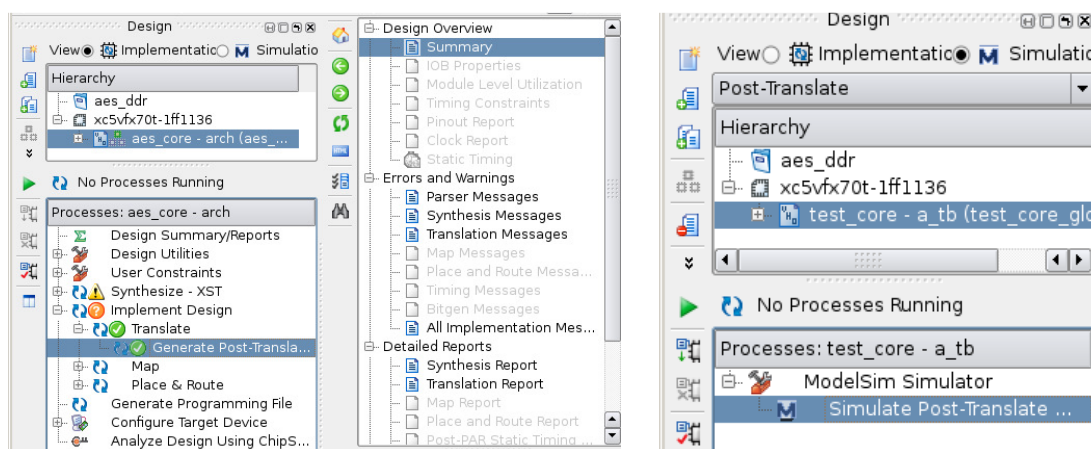
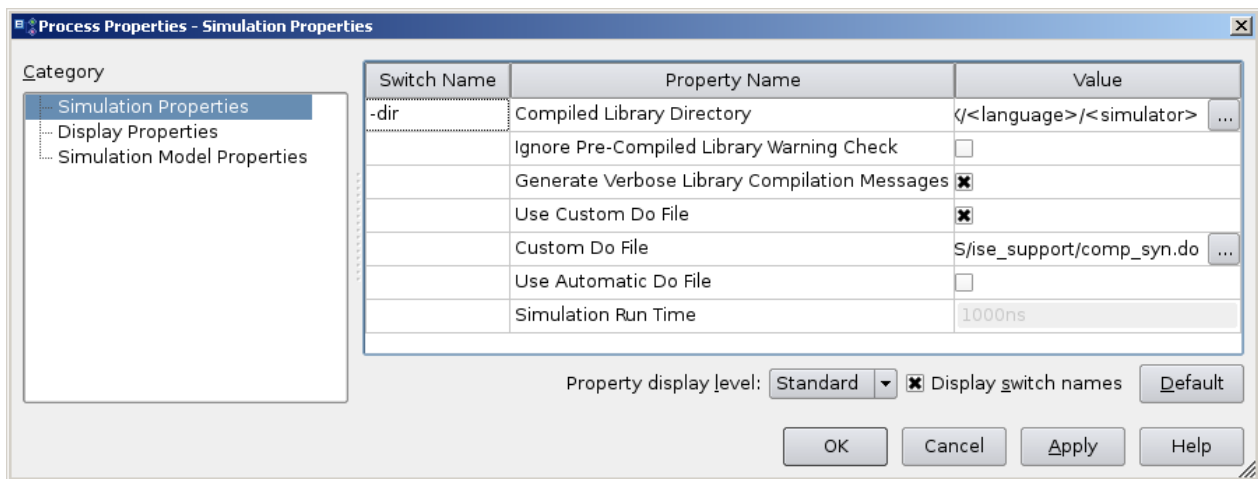

Figure 10: Starting the post-synthesis simulation
Figure 11: Parameters for the Post-Translate Simulation
9. **Post-synthesis verification.** If the synthesis completed successfully, then it is advisable to simulate the result, in order to verify that it did not alter the expected timing of the signals. This requires that the design is synthesized and translated, and the simulation model is generated after the translation step (Figure 10). The simulation of the post-translate model can be started by selecting *Post-Translate Simulation* in the drop-down menu, and then running the command *Simulate....* In the project of the first session, open the *Process Properties* window of the *Simulate* command, and select the custom script file as in Figure 11. Verify that your design behaves as expected even after synthesis. Note that the representation, or the existence itself, of some signals has changed.